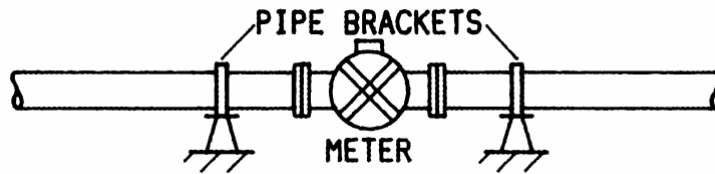

Fig. 3, Supporting the flow meter
1. Install suitable pipe brackets at each side of flow meter (Fig. 3).